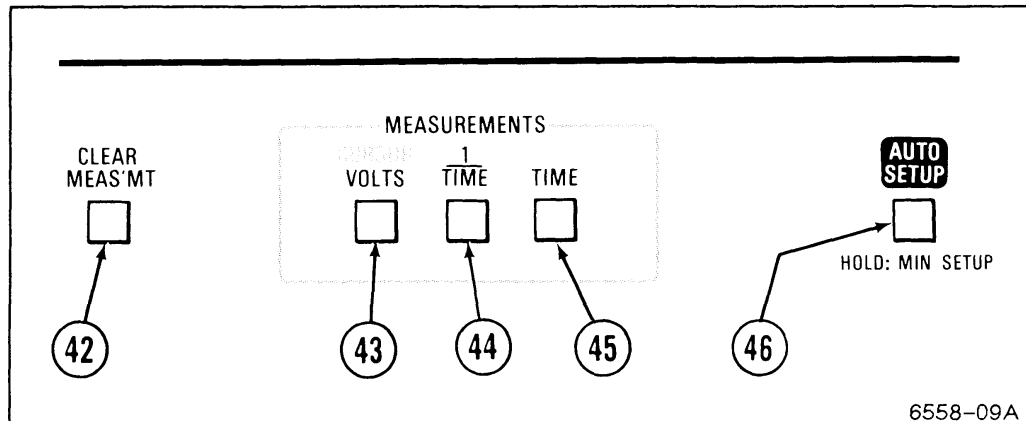

Figure 2-7. Measurement controls.
Refer to Figure 2-7 for location of items 42 through 46.
- ④2 CLEAR MEAS'MT—Clears displayed service menus and cursor measurements functions.